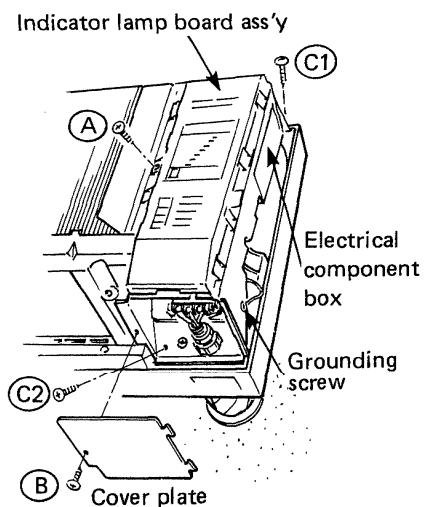

Fig. D-2
- 2) Using a Phillips screwdriver, remove set screw **(A)** on the indicator lamp board ass'y. Fig. D-2.
- c) Remove screws **(C1)** **(C2)** and the grounding screw respectively. Fig. D-2.